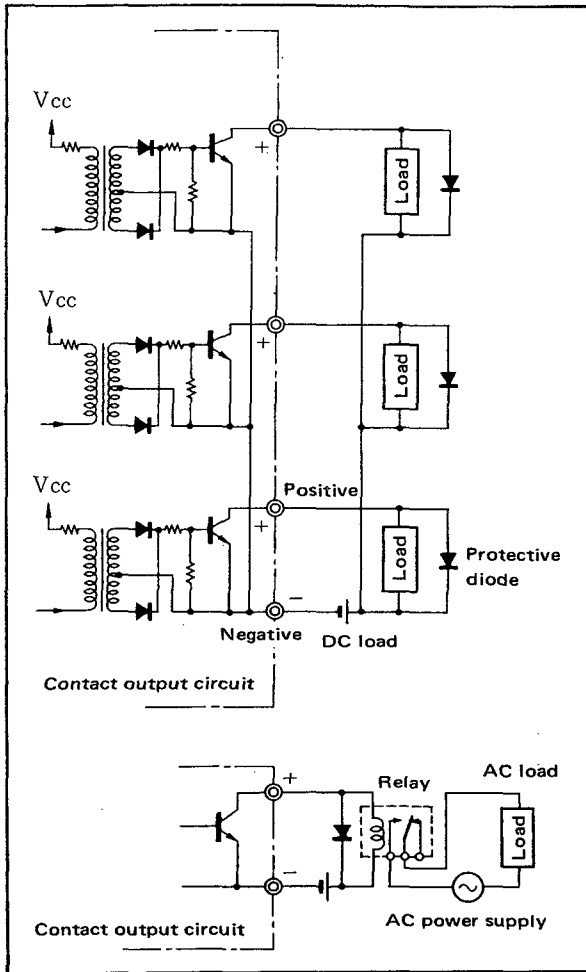

Figure 3-1-3. Connection of Contact Outputs.
- (1) Be sure to terminate all cable connections in solderless crimp-on lugs.
- (2) Each status and voltage input must be as per STLD*E specifications. Note the limits on conductor resistance, voltage drop in conductors, and voltage (high/low) levels. (Refer to Section 2-1. Standard Specifications)
- (3) The fail and digital outputs are transistor contact signals (isolated from power supply and other internal circuitry). When connecting external devices, pay attention to the following: (See Figure 3-1-3.)
- When connecting a relay or other such inductive device, connect a surge absorber (protective diode — Figure 3-1-3, CR circuit, etc.) in parallel with the load.
- (4) Use shielded twisted-pair SCCD cable for communication lines (terminals 17, 18).